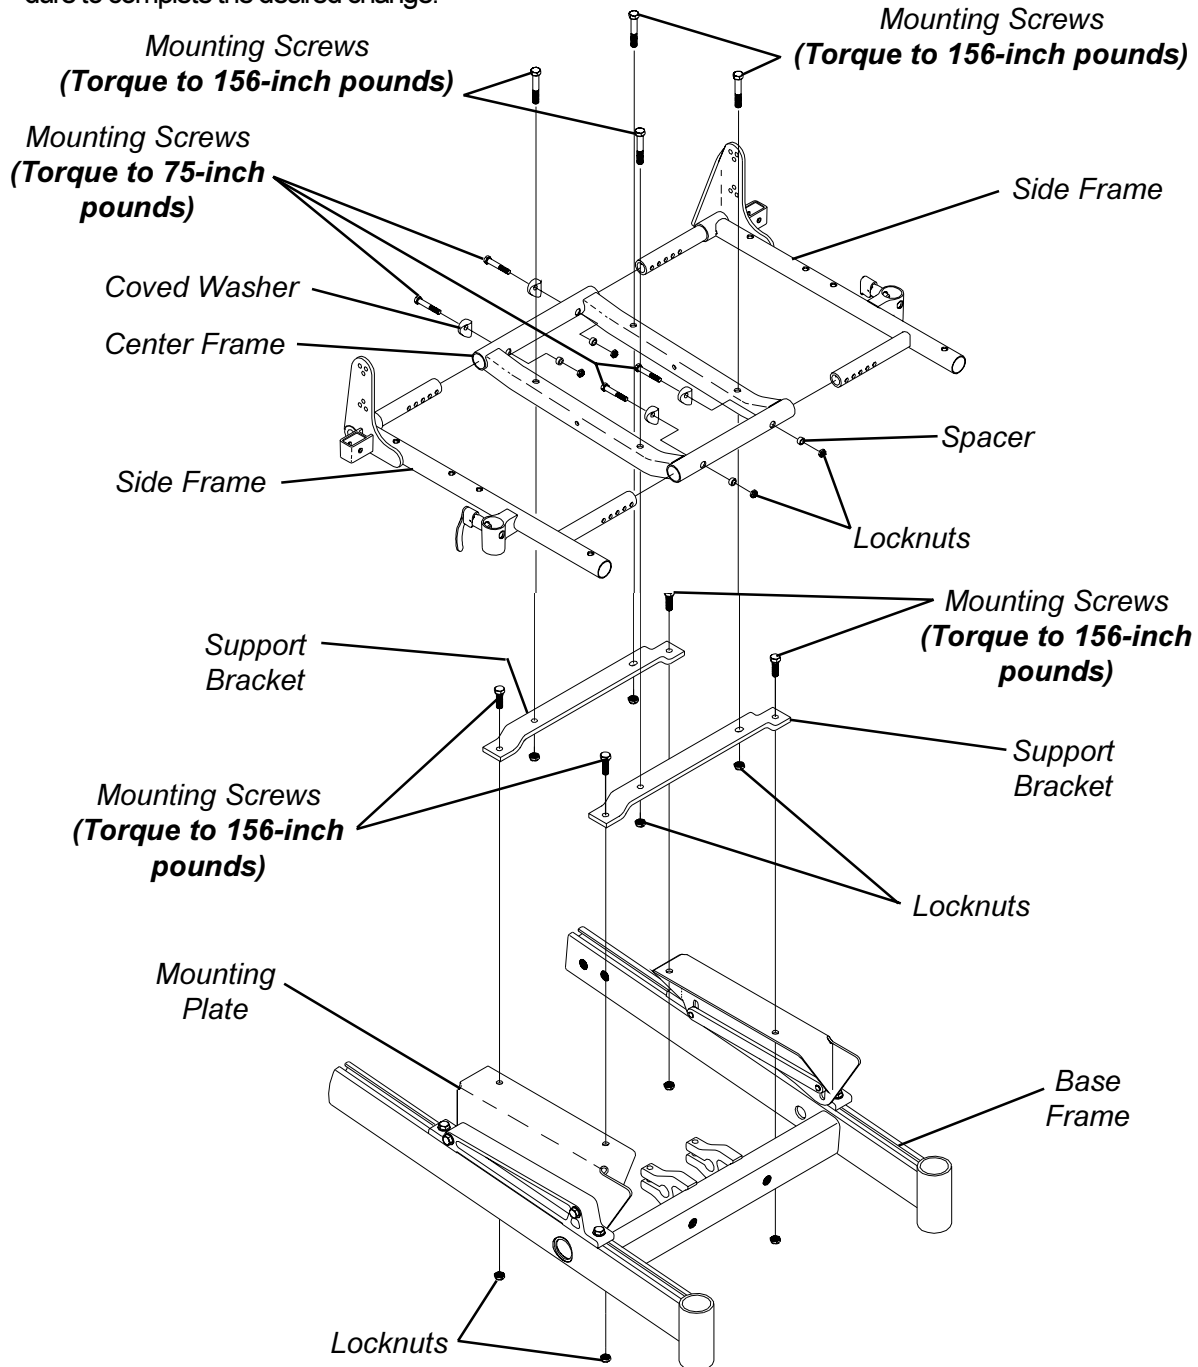

FIGURE 6 - INSTALLING/REMOVING ADJUSTABLE SEAT FRAME SUBASSEMBLY AND/OR COMPONENT REPLACEMENT
**INSTALLING/REMOVING ADJUSTABLE SEAT FRAME SUBASSEMBLY AND/OR COMPONENT REPLACEMENT (FIGURE 6)**
1. Secure both support brackets to the seat mounting plates with four (4) mounting screws and locknuts as shown in FIGURE 6. Torque mounting screws to 156-inch pounds.
2. Secure the center frame to the support brackets with four (4) mounting screws, locknuts, and spacers. Torque to 156-inch pounds.